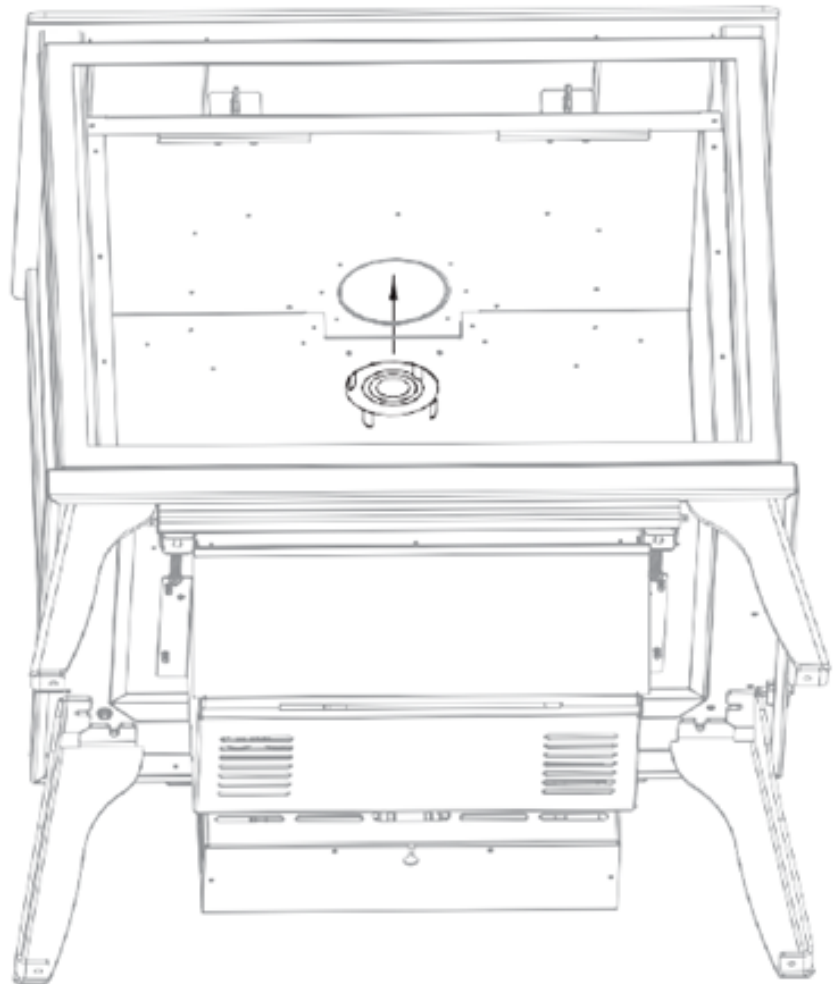

Figure 10.9 - Restrictor Plate Installation
There is a vent pipe restrictor plate that is provided with the appliance in the parts packet. See Figure 10.9.
2. Remove (3) screws at the firebox back wall securing the baffle. Remove baffle to access the 4" (102mm) exhaust pipe.
4. Insert restrictor plate into the 4" (102mm) exhaust pipe with the tabs pointing down. See Figure 10.9.
5. Reinstall baffle by resting the front of the baffle above flange along the inside top of firebox opening. Tip the baffle against the firebox back wall, and secure with (3) screws previously removed.
3. Remove the restrictor plate by pulling it down and out of the 4" (102mm) exhaust pipe. Make necessary modifications to achieve desired flame appearance. Refer to Table 10.7 and Figure 10.9 for flame appearance adjustments.